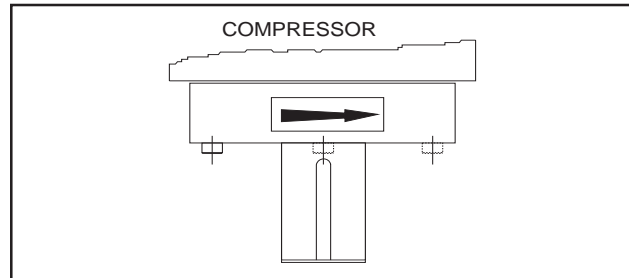

Figure 12
**CAUTION** Compressor rotation is clockwise when facing the compressor drive shaft. (See Figure 12) The compressor should never be operated in reverse rotation as bearing damage will result.